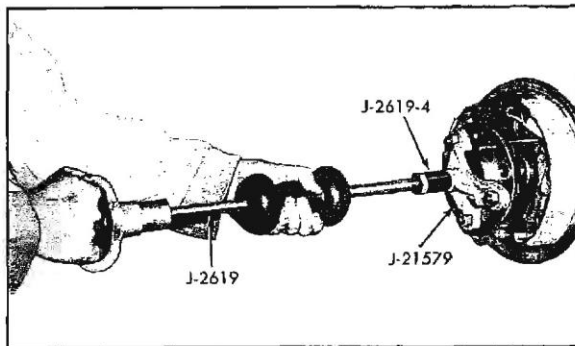

Fig. 4-10 Removing Axle Shaft
4. Pull out axle shaft assemblies, using puller J-21579 and adapter J-2619-4 with a slide hammer J-2619 (Fig. 4-10).